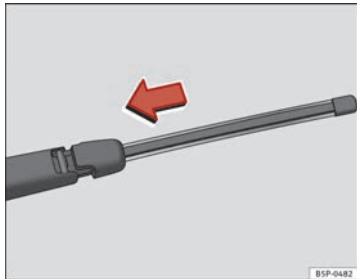

Fig. 173 Fitting the rear window wiper blade
- Place the blade as shown in the ⇒ Fig. 173 and slide the adapter along until it engages.